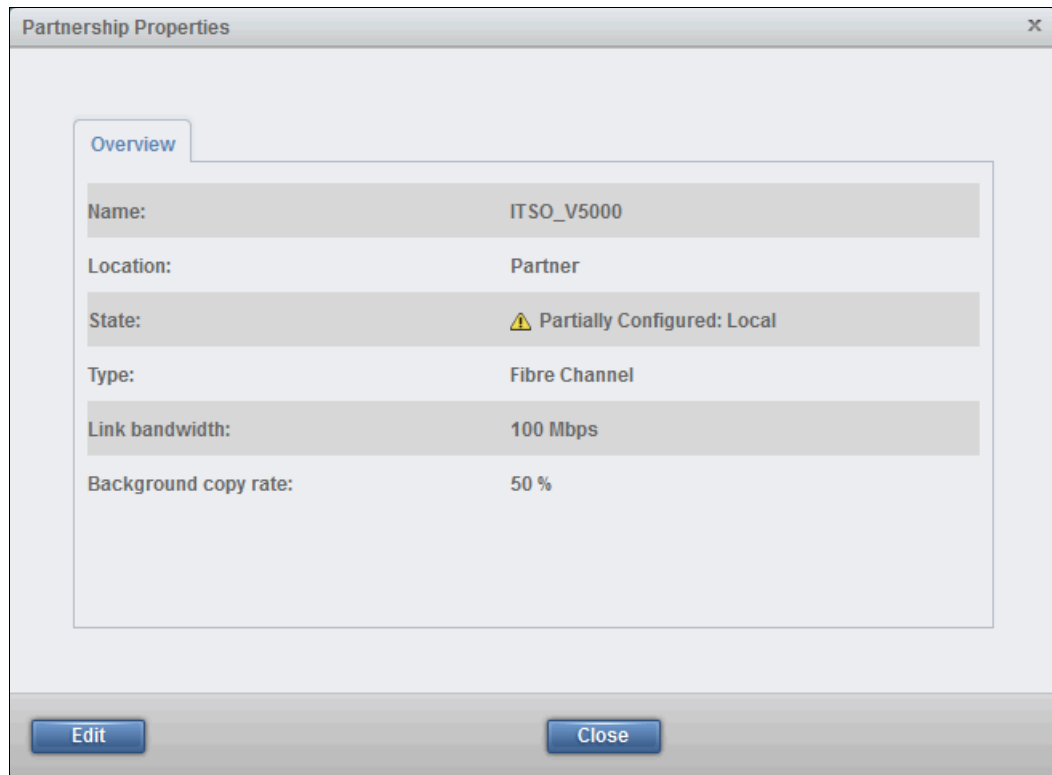

Figure 10-91 Editing partnership bandwidth and background copy rate
10. From the Properties menu option, the partnership bandwidth and background copy rate can be altered by clicking **Edit**, as shown in Figure 10-91.